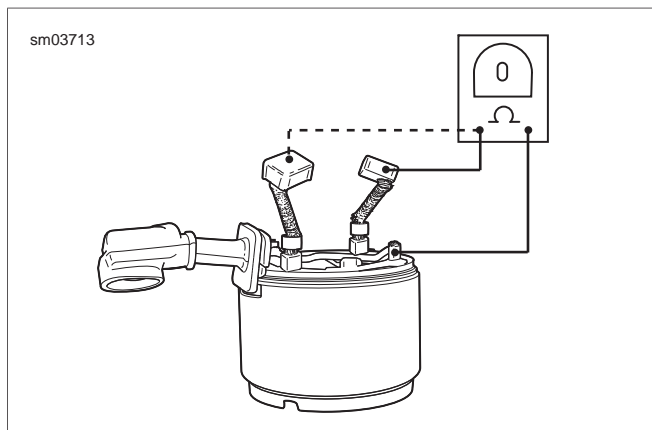

Figure 3-14. Open Field Test
4. See Figure 3-14. Check for an OPEN FIELD COIL WINDING with an ohmmeter or continuity tester.